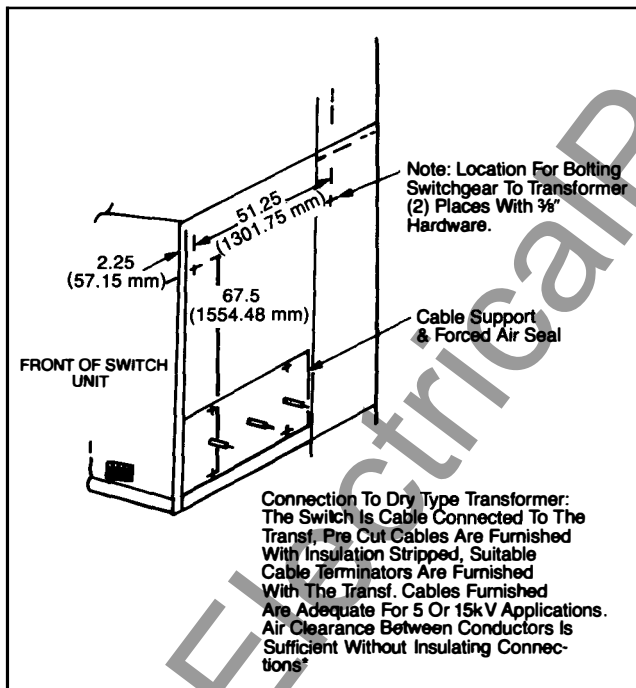

Figure 5. Bolting Procedure for Ventilated Dry Transformers
Figure 5 shows location of bolt holes to be used for this purpose. Two holes are provided on load interrupter switch units; three holes are in-line with captive nuts provided on the vent dry transformer frame and are "plugged" with .38-16 hardware prior to shipment. To connect the transformer to the switchgear the procedure is:
1. Remove .38-16 in. hardware from bolt holes shown in Figure 5; (Note that this hardware is hex head and all other hardware holding side plates in place is flat head type). Save all hardware except for hex head nut.